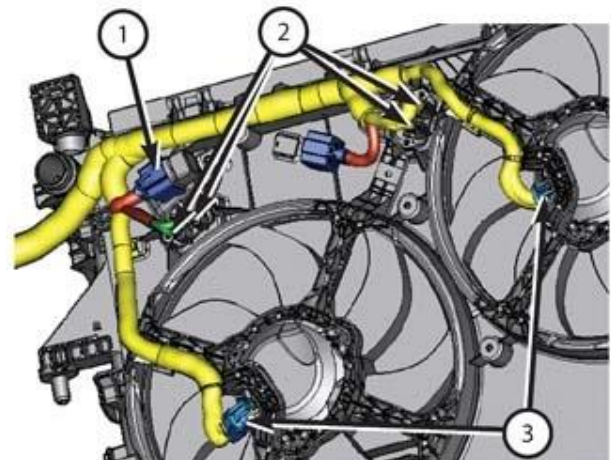

Figure 14 – Wire Harness Connectors
- From above or below as necessary, disconnect the wire harness connectors from the cooling fan relays (1), the resistors (2) and the cooling fan motors (3) (Figure 14).
- From below or above as necessary, connect the wire harness connectors to the cooling fan relays (1), the resistors (2) and the cooling fan motors (3) (Figure 14).